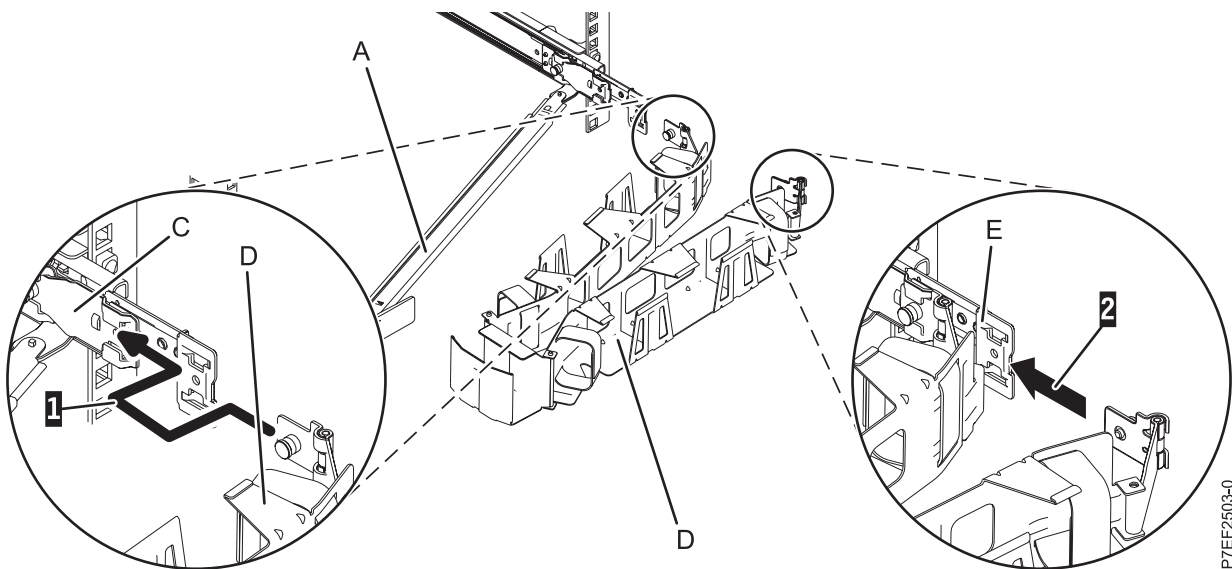

Figure 15. Connecting the cable-management arm
7. Place the cable-management arm (D) on the support arm (A). Slide the first cable-management arm tab into the slot on the mounting bracket (C). Push the tab until the spring-loaded latch snaps into place. Slide the other cable-management arm tab into the extension bracket (E) on the outside of the right slide rail (2). Push the tab until the spring-loaded latch snaps into place. For details, see Figure 15.